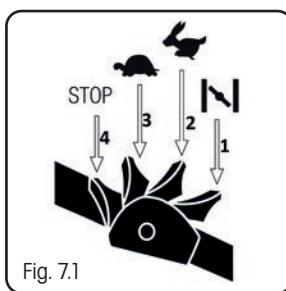

Fig. 7.1
1. Adjust the engine speed lever (Fig. 7.1 position 1) - closed air supply.
3. After starting the engine, move the speed control lever to position 2 (Fig. 7.1) – fast engine speed.
4. To stop the engine, move the engine speed lever to position 4 (Fig. 7.1) - STOP.